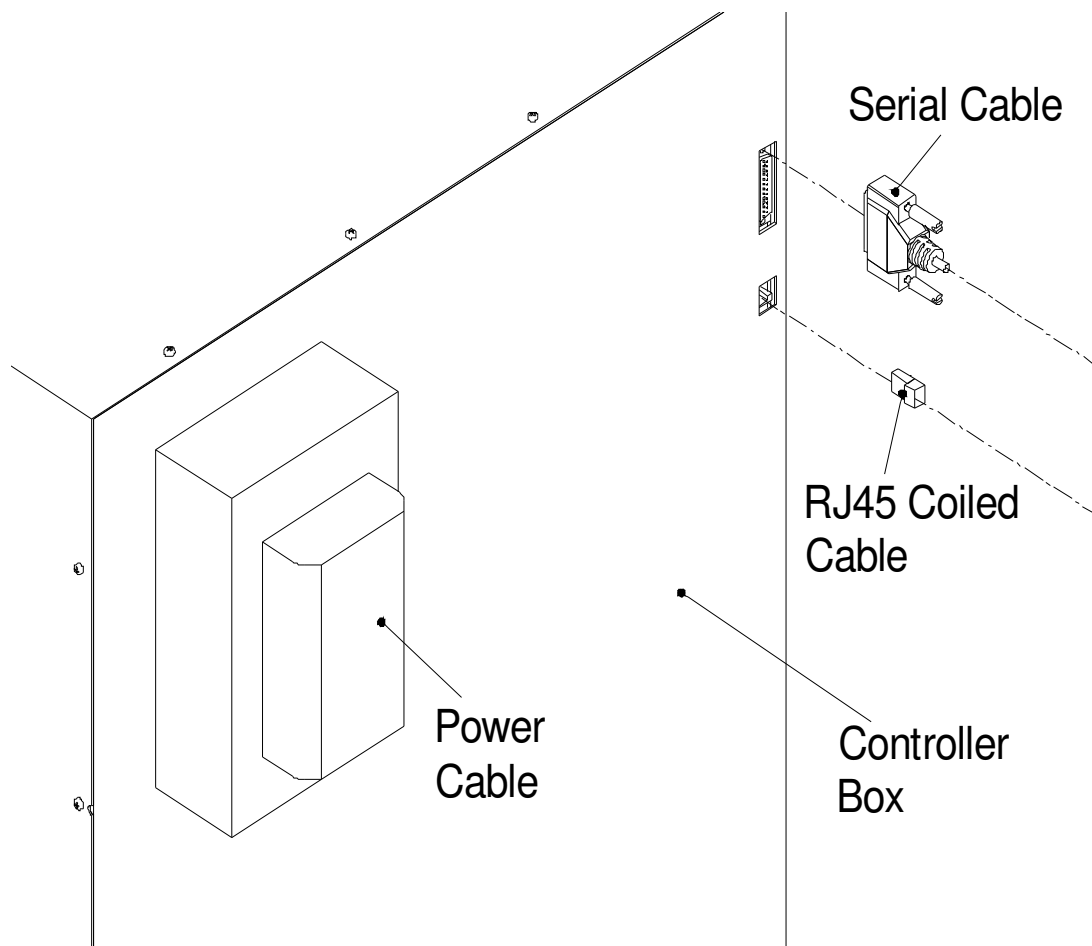

Figure 1
- 2- Step 2: **Unplug Serial Cable (the one connected to computer) and unplug the RJ45 coiled cable (the one connected to remote control) (Figure 1).**